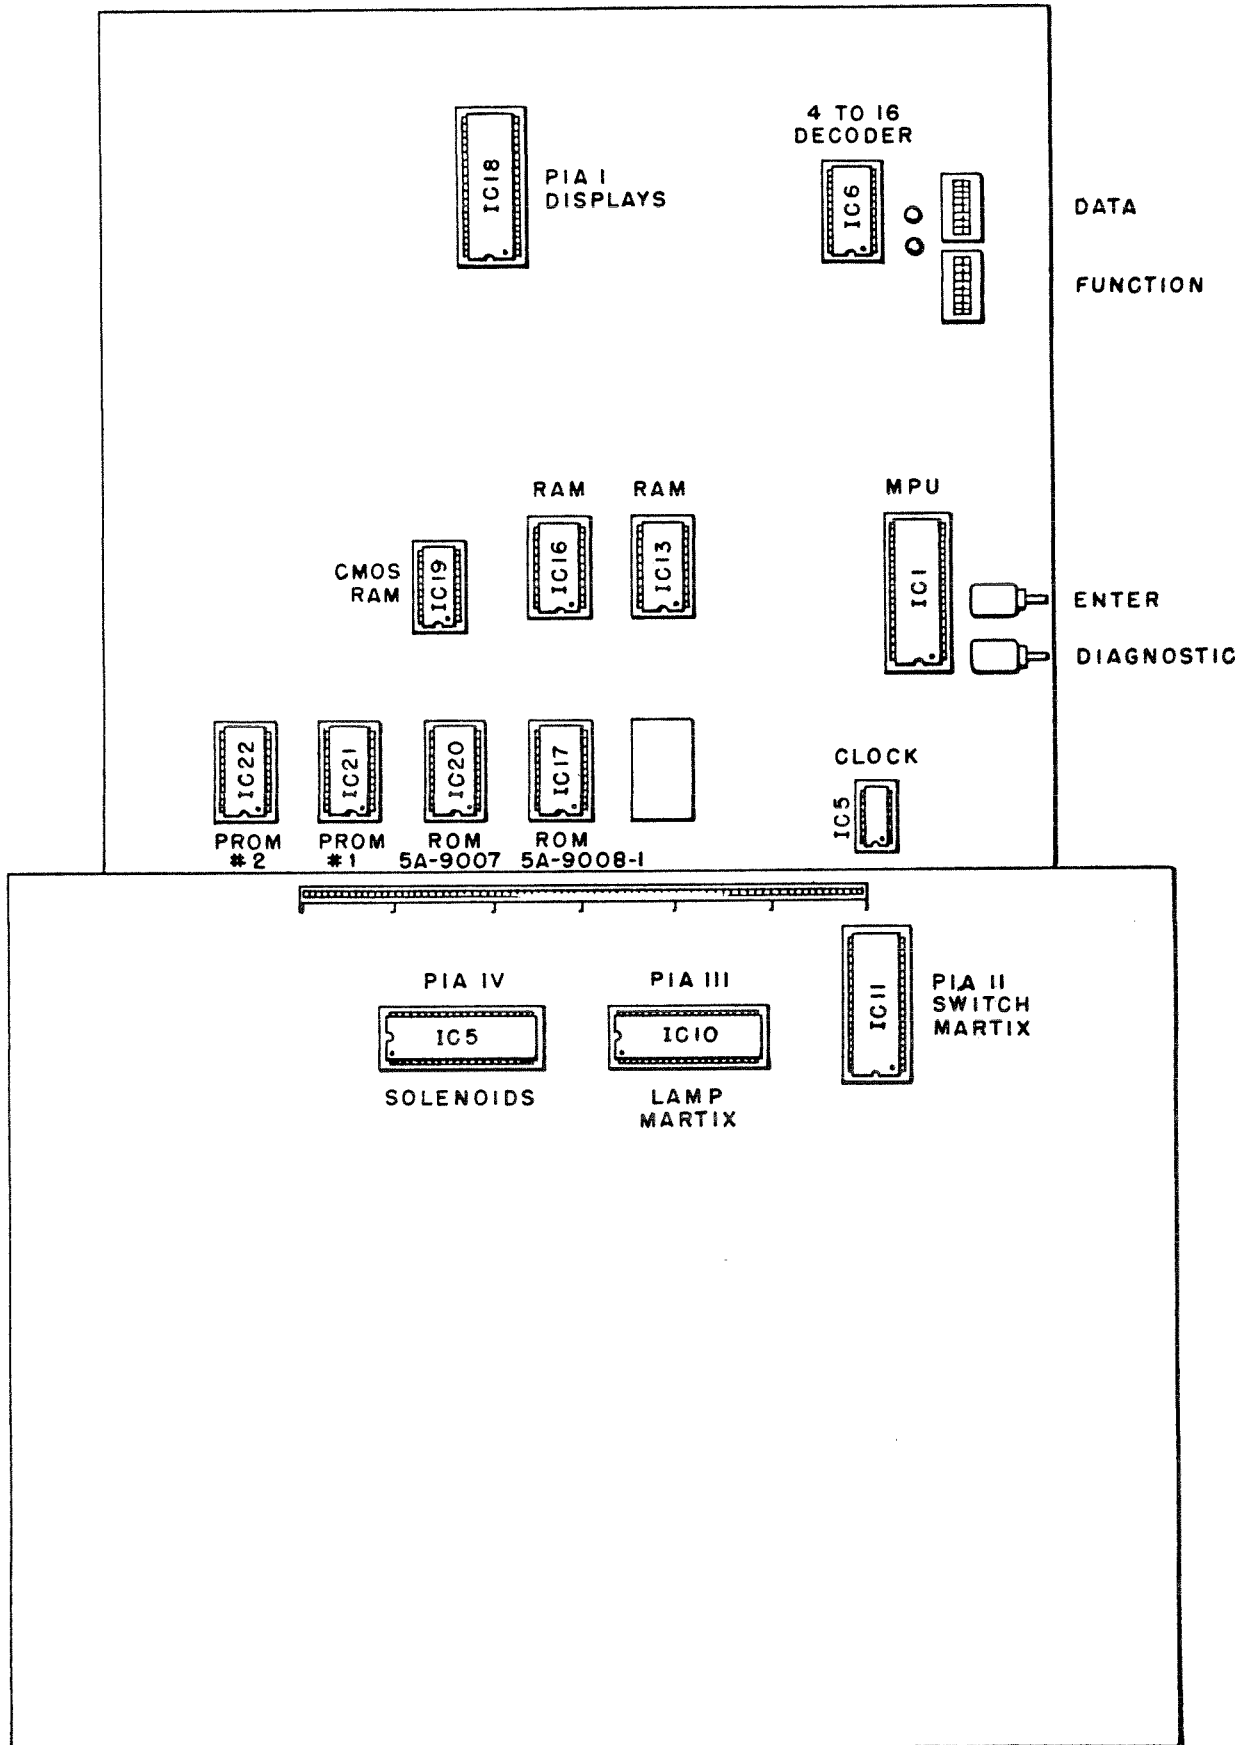

Figure 2
After all the connectors have been checked as outlined above, gently press on the integrated circuit (IC) packages that are socketed on the CPU and Driver Boards. (See Figure 2). **DO NOT** remove any of the IC packages from their sockets. Also check that the batteries are still securely mounted to the CPU Board. **DO NOT REMOVE THE BATTERIES!** If the batteries are removed with power off the game will go to default values for all the options and particular changes will have to be restored manually before the game can be put on location. The batteries are all installed with the positive (+) end up. Battery life is about the same as shelf life or about one year. When it is time to replace the batteries, remove the batteries while the game is **ON** or the game will go to default values.